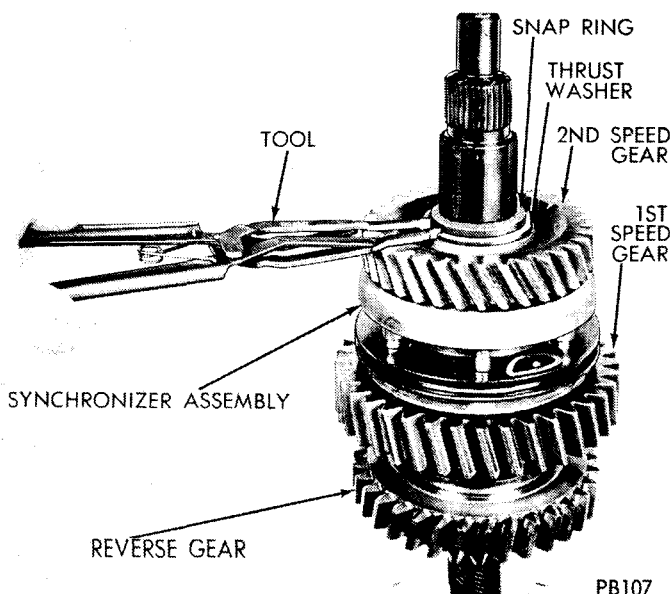

Fig. 10—Removing 2nd Speed Gear Snap Ring
- (1) Place mainshaft vertically in soft-jawed vise with front end up.
- (2) Lift 3rd-4th synchronizer and high speed clutch gear off of mainshaft.
- (3) Remove 3rd-speed gear.
- (4) Remove 2nd-speed gear snap ring with snap ring pliers. Lift off thrust washer. The thrust washer must be positioned with the ground surface toward the 2nd-speed gear when the mainshaft is reassembled (Fig. 10).